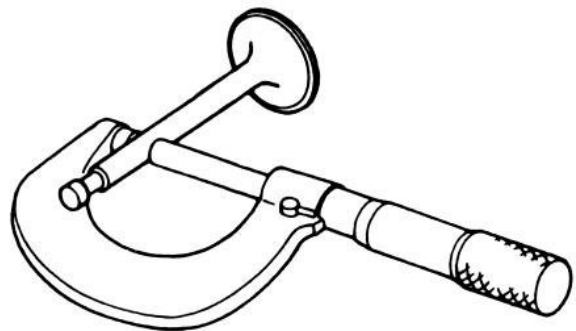

Figure 4-18: Check Valve Stem Diameter
- See Figure 4-18. Measure and record each valve stem O.D. Replace the valve if O.D. is not within specification.